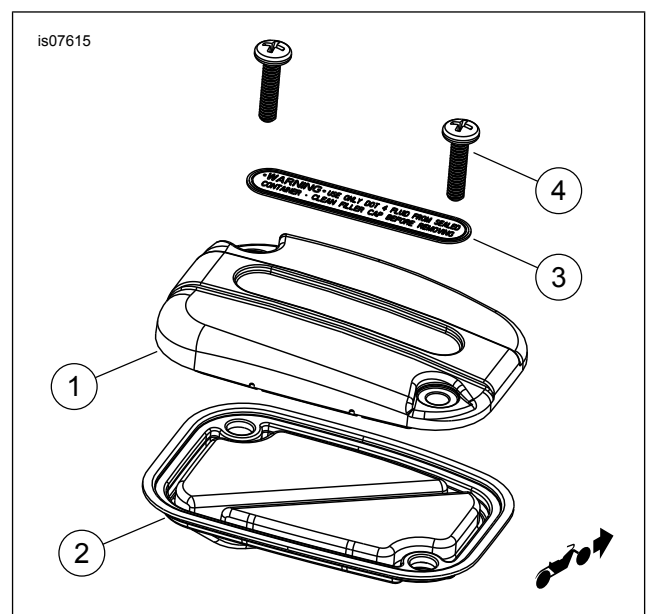

Figure 1. Service Parts: Clutch Master Cylinder Cover Kit
See Figure 1 and Table 1.
6. See Figure 1. Note the shape of the master cylinder cover. One end is thinner than the other. With the thinner end positioned above the clutch line fitting, install the cover (with gasket compressed) Fasten the cover and gasket to the reservoir with two screws (4). Torque screws to 1.4–1.7 N·m (12–15 in·lbs).